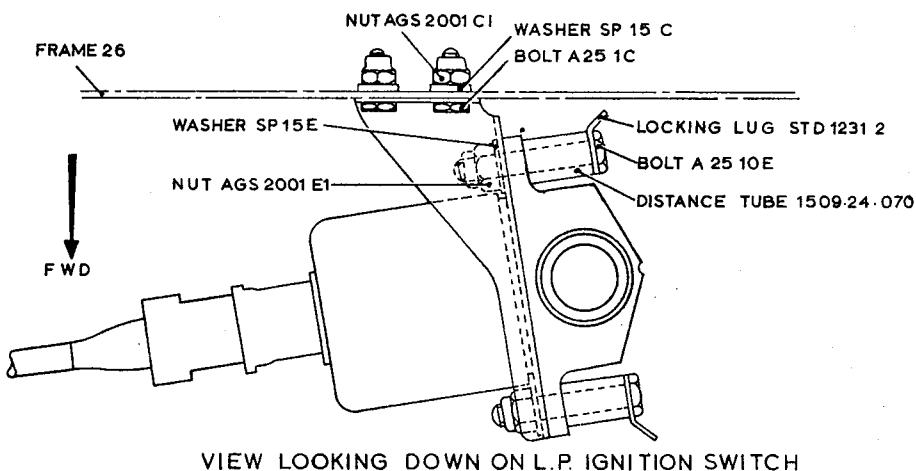

Fig.5 L.p. ignition switch installation
(2) Remove the locking wires and disconnect the fuel pipes from the switch. Slacken other ends of pipes and move clear.
(3) Remove two bolts, etc. securing the switch to the mounting bracket.
(4) Apply an air pressure of 70 lbf/in2, then release the pressure.
(5) Repeat (4) four times.
(6) Apply a gradually increasing air pressure and check that the circuit is broken between pins A and B and made between pins A and C, at between 40 and 45 lbf/in2.
(7) Decrease the pressure to 20 lbf/in2, check that continuity is restored between pins A and B, then release the pressure and remove the test equipment.
(8) Fit the switch to the mounting bracket as shown on fig.5.
(9) Re-connect fuel pipes, tighten and wire-lock connections with stainless steel locking wire.
(10) Re-connect electrical cable.
(11) Prime the system as detailed in para. 9.